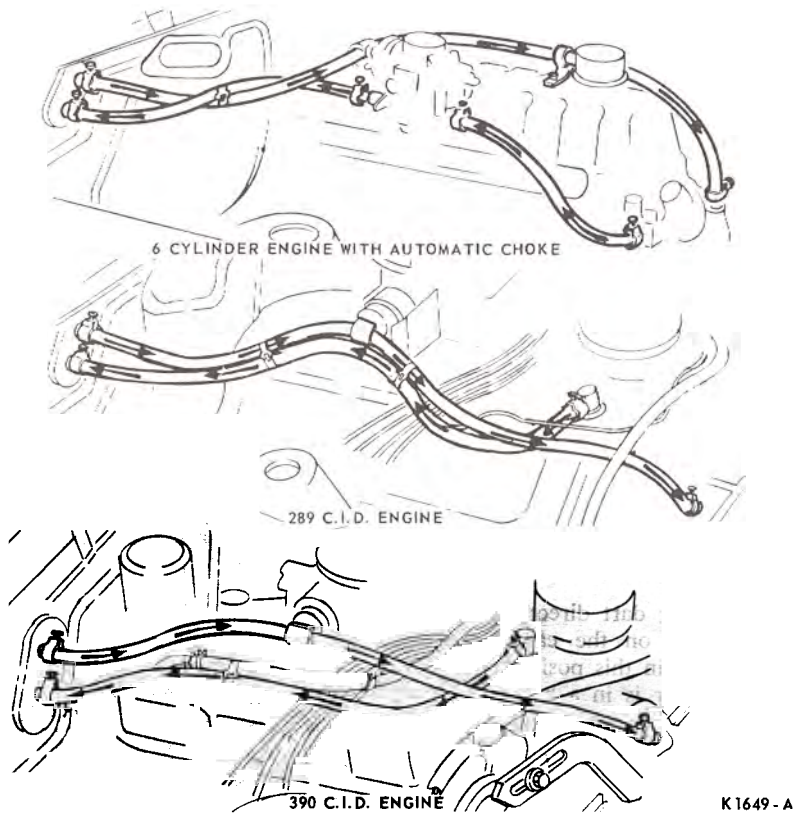

FIG. 12—Heater Hose Routings—Six and Eight Cylinder Engines
Care must be taken when servicing the hoses to insure a smooth kink free installation for maximum heating (Fig. 12).
5. Disconnect the heater hoses at the water pump and the carburetor heater. Remove the heater hoses from the retaining clips. On 8-cylinder models remove the hose from the choke clip (Fig. 12).